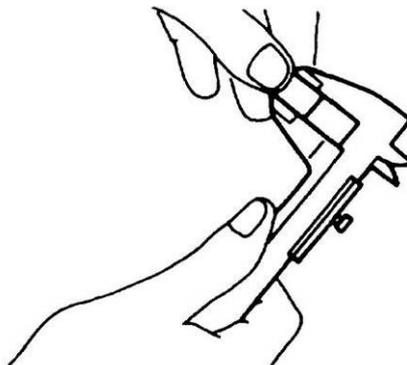

Figure 323 Measuring the Vacuum Pump Vanes
- l. Inspect the vacuum pump for damage or excessive wear and replace the vanes if the overall length is not between 12.5 to 13.5 mm (0.492 to 0.531 in) (Figure 323).